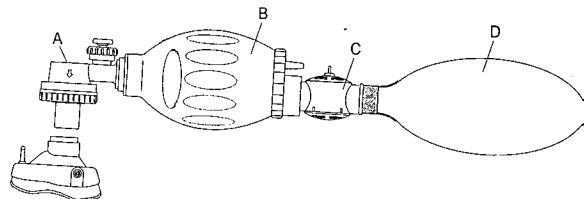

Figure 1. The Manual Resuscitator
The manual resuscitator consists of four major components (figure 1): non-rebreathing valve assembly (A), silicone bag (B), reservoir valve (C) and oxygen reservoir (D). parts C and D should be removed if supplemental oxygen is not to be supplied from an external gas source.